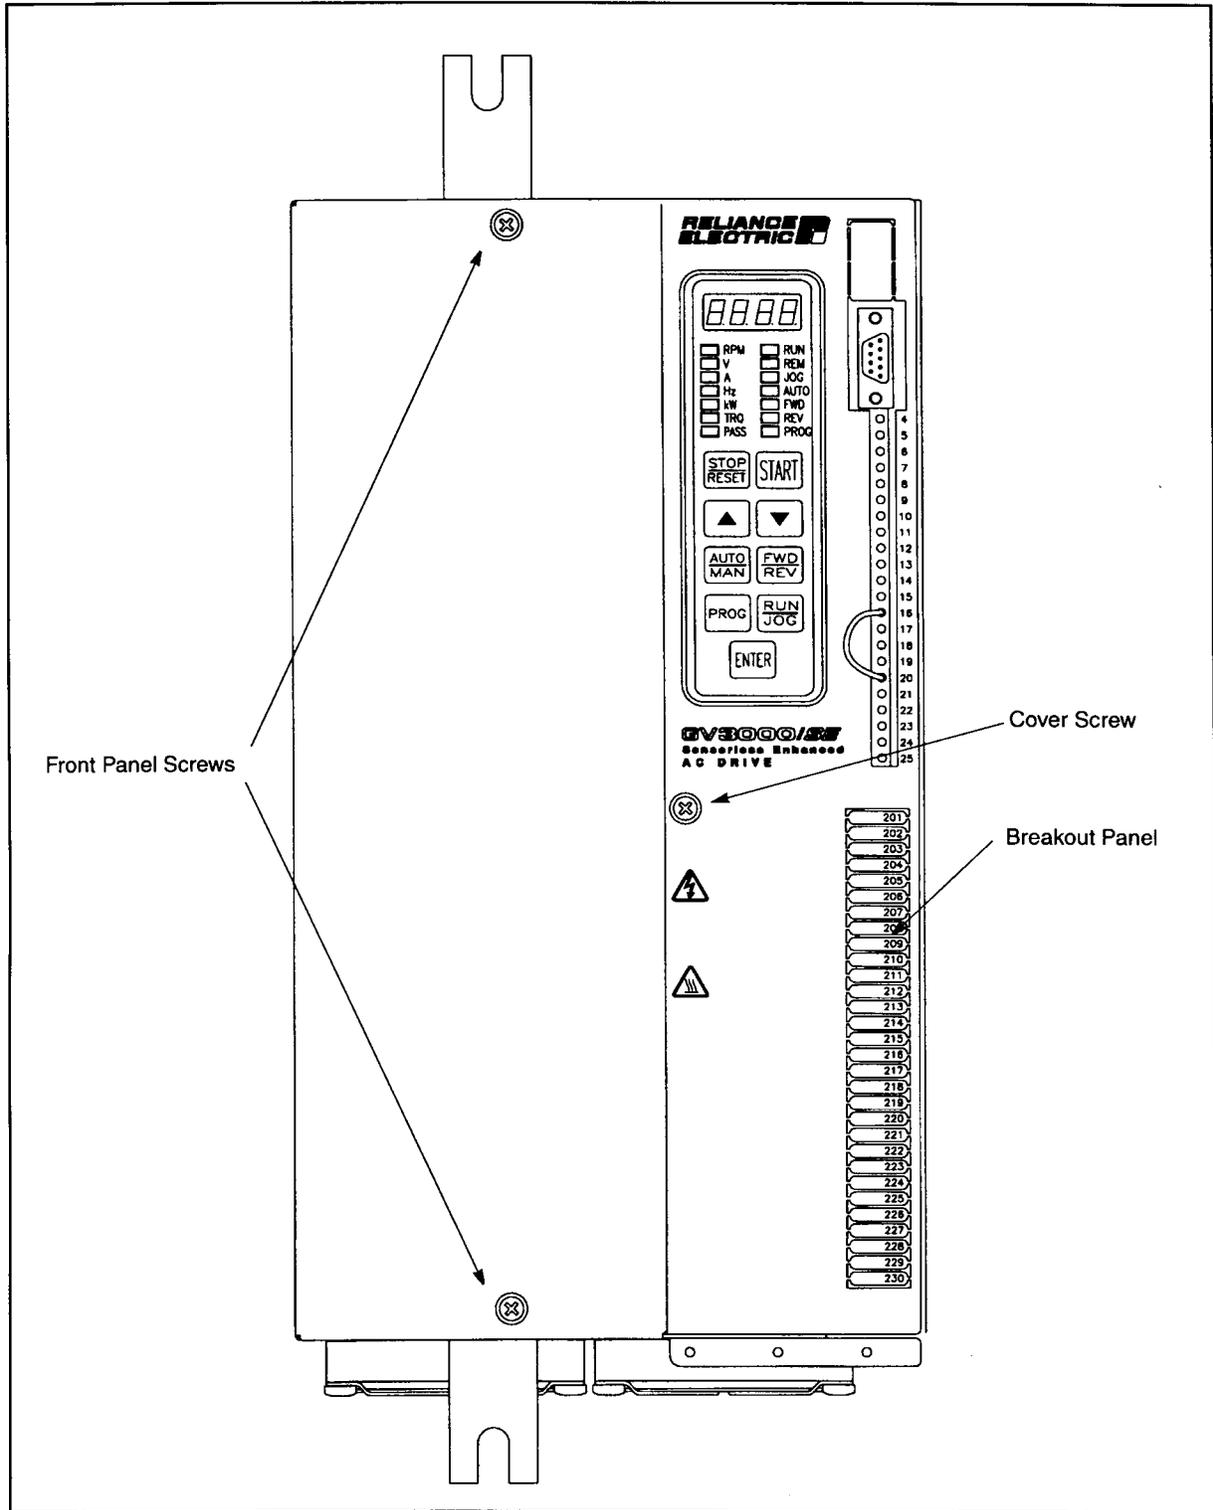

Figure 2.18 – 24 to 30 Amp Bookshelf Drive
- **24 to 30 A drives:** Remove the cover by removing the cover screw on the faceplate of the drive. Then remove the front panel by removing the two screws on the faceplate of the drive. See figure 2.18.